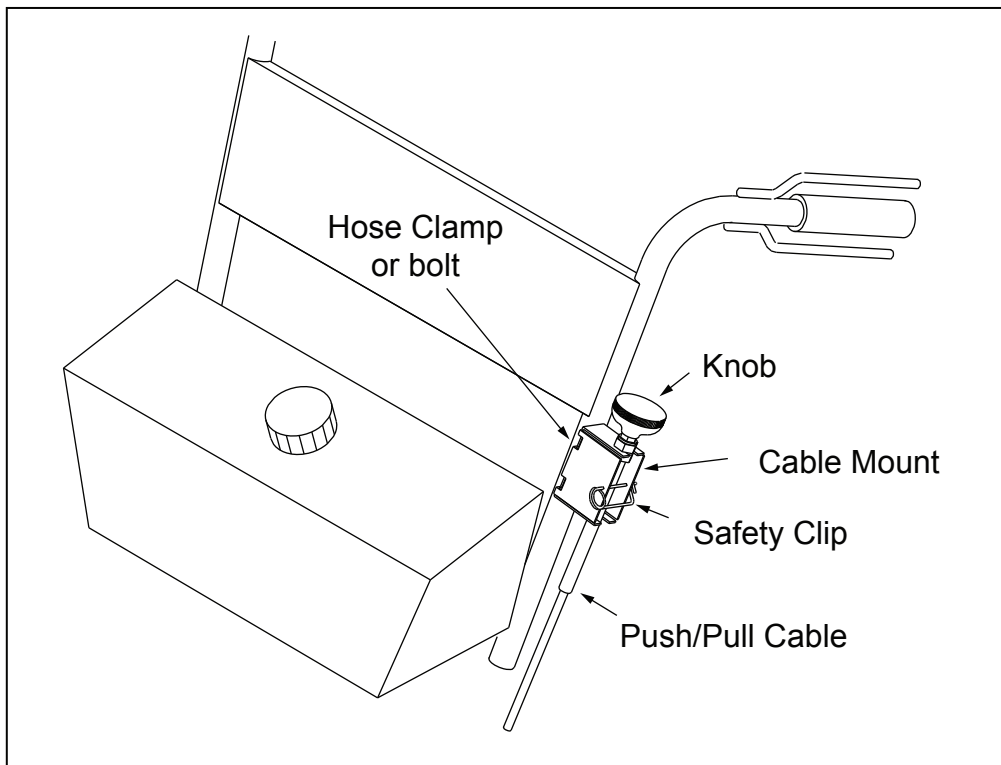

Figure 3
2. Slide knob end of push/pull cable into the u-slot of cable mount between nuts. See Fig. 3